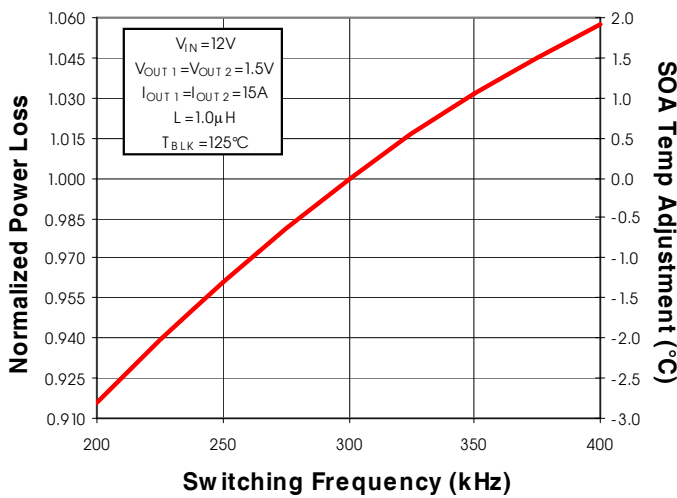

Fig. 6: Normalized Power Loss vs. Frequency
(Fig. 6) Normalized power loss for frequency  $\approx 1.0$
- (Fig. 6) Normalized power loss for frequency  $\approx 1.0$
- (Fig. 6) Normalized SOA Temperature for frequency  $\approx 0^{\circ}C$